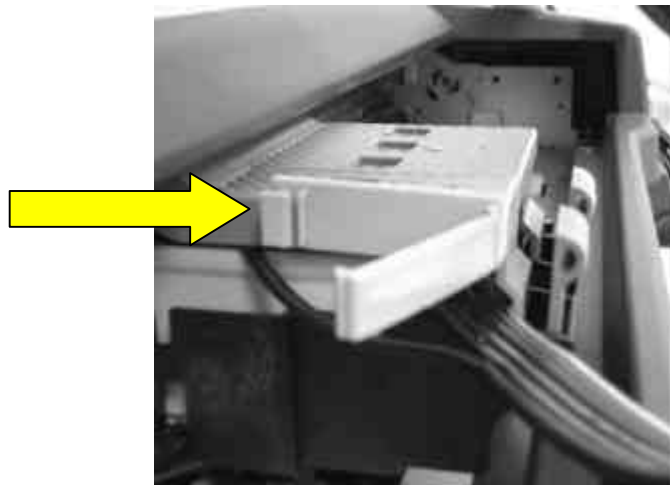

Fig. 11
12. Once the QuickConnect is installed properly, remove the paper back from the adhesive strip and stick firmly against the side of the black cartridge holder lid. Press the tab to open the clip. See Fig 11.